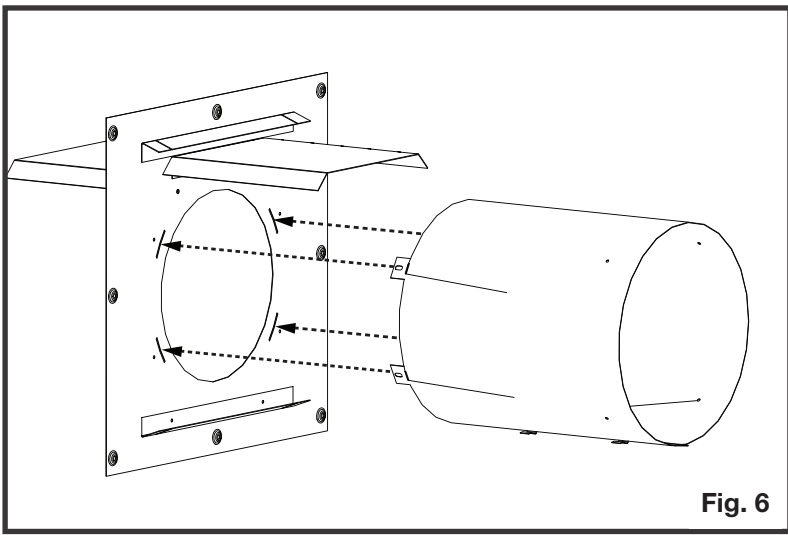

Fig. 6
- 3. Insert the vent sleeve tabs into the firestop spacer slots then bend the tabs over to secure to the firestop spacer along with 4 supplied fasteners (Figure 6).